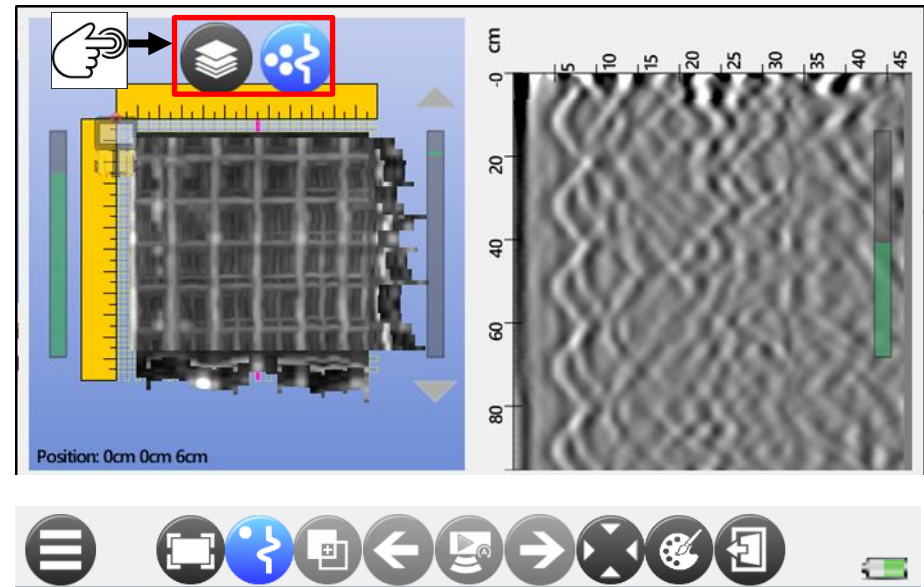

Fig. 69 – Tomography in real time.
- Click  button to start; the icon will become  and a warning single “beep” sound will be emitted by the system. At the end of a scan, the user should click the icon to stop and save the last acquisition (  →  ); a warning double “beep” sound will be emitted by the system. The user can do the same actions just by pressing the button on the handle (red square in Fig. 69) to start acquisition, then hold the same button at the end of acquisition. The scan the user is acquiring is highlighted in purple.
With  activated, the user can visualize the tomography map obtained by interpolation of the single acquisition lines (Fig. 69); it's possible furthermore set the visualization mode, choosing between:
Furthermore, Activating the icon  The user can specify the depth of the tomography view. To do this, use the vertical bar to the right of the GRID, or pressing the up  and down  arrow at the extremities of the bar (Fig. 69)
Deactivating the icon  ,the entire volume is collapsed in a single view and all tomography sections are illuminated (Fig. 69).